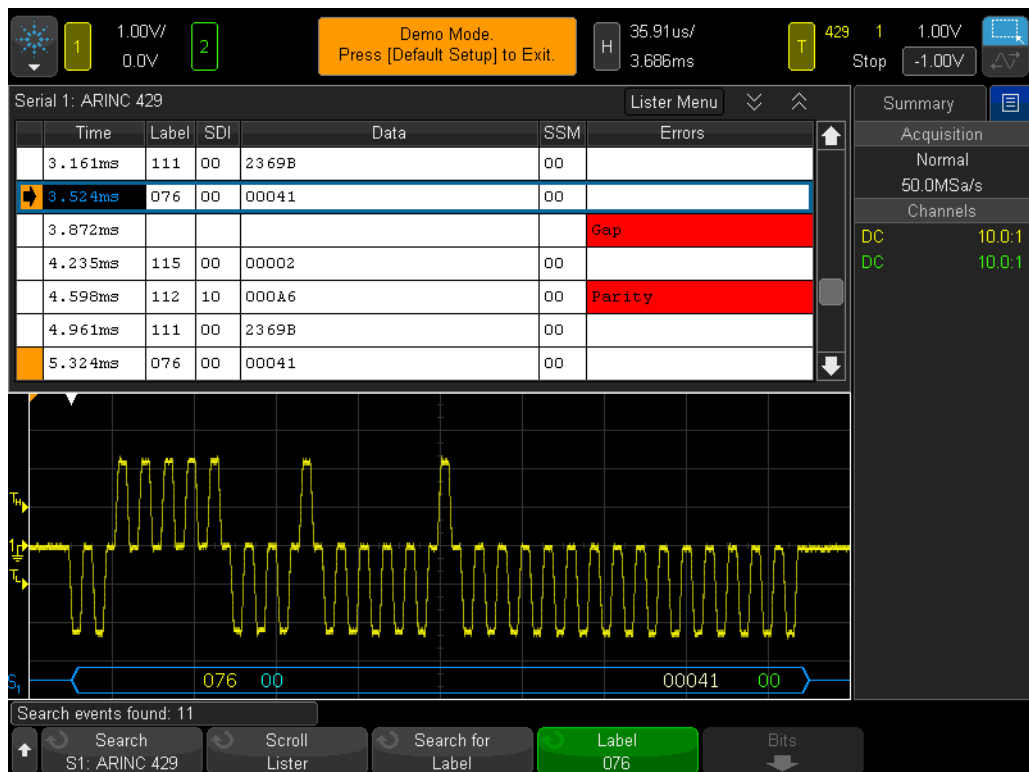

Figure 97 Using the lister to view decoded information.
- 18 Use the **◀** and **▶** front panel navigation keys to automatically scroll through all search results. The lower screen will automatically zoom into the word in the search list, and point to it in the lister window. See Figure 97.